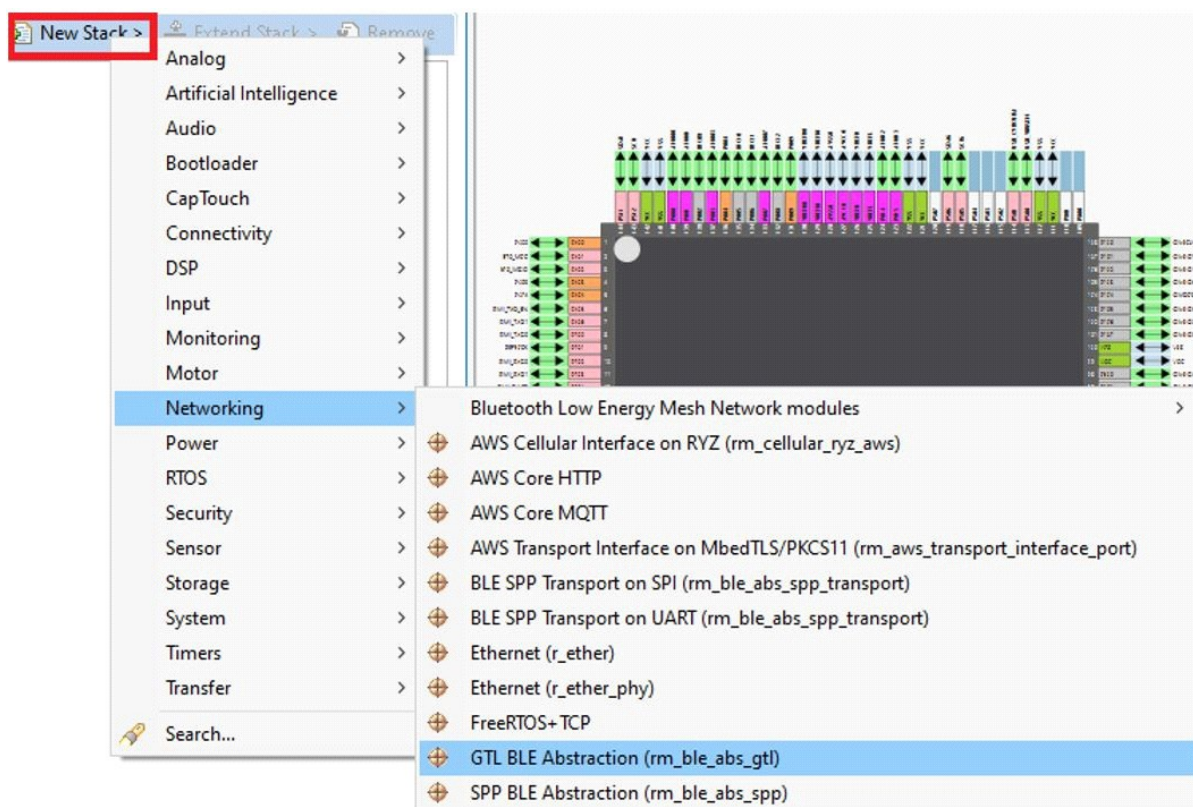

Figure 10. New Stack – Networking Menu
9. Select the BLE Thread and open the **New Stack** menu. Select **Networking > GTL BLE Abstraction (rm_ble_abs_gtl)** (see Figure 10).